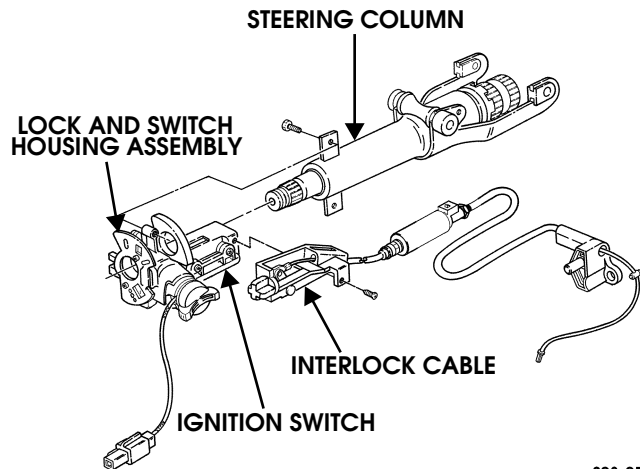

Figure 8-13: Lock and Switch Housing Assembly Replacement
4. Remove screw and interlock cable from ignition switch (Figure 8-13).
1. Apply thread-locking compound to bolt threads and secure lock and switch housing assembly on steering column with two bolts (Figure 8-13).
2. Remove two screws and lock and switch housing assembly from steering column (Figure 8-13).
4. Secure lock and switch housing assembly to steering column with two screws (Figure 8-13).